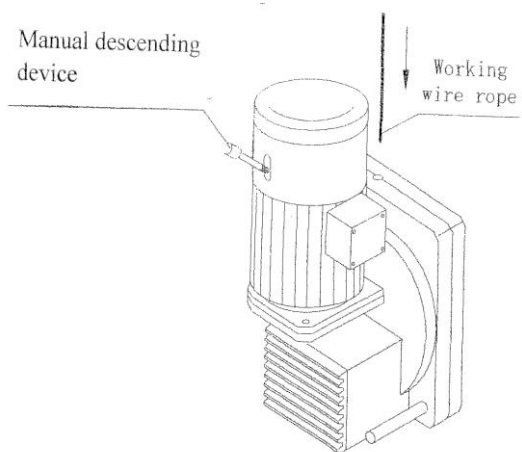

Figure 3: LTD5 Hoist
3.3.2 The hoist is provided with automatic rope feeding function and operators just need to insert steel rope into the inlet of the hoist (see figure 3 as below).
3.3.3 The electromagnetic brake of hoist motor is able to be auto-engaged to produce braking torque that stops and supports the suspended chair. In the event of power failure or emergency, the manual descending device can be used to prompt the suspended chair to slide downwards at even speed (see figure 3 as below).